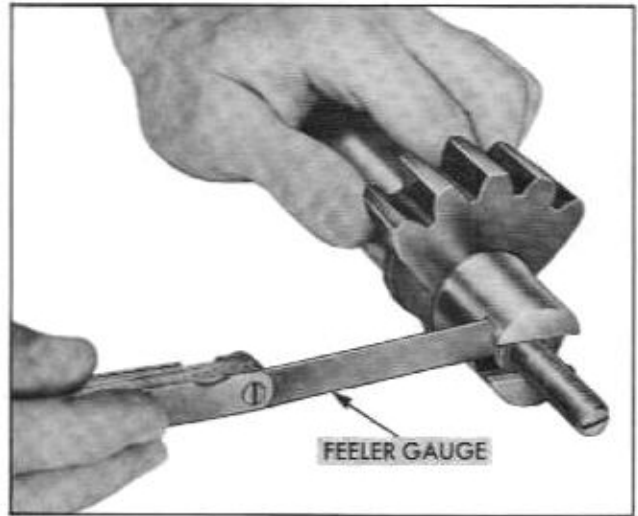

Fig. 9-56 Checking End Play of Lash Adjuster Screw
1. Check end play of lash adjuster screw in slot of pitman shaft by inserting a feeler gauge between head of screw and bottom of slot (Fig. 9-56). If end play exceeds .002", select proper shim to give less end play. The shims are available in four different thicknesses: .063", .065", .067" and .069".